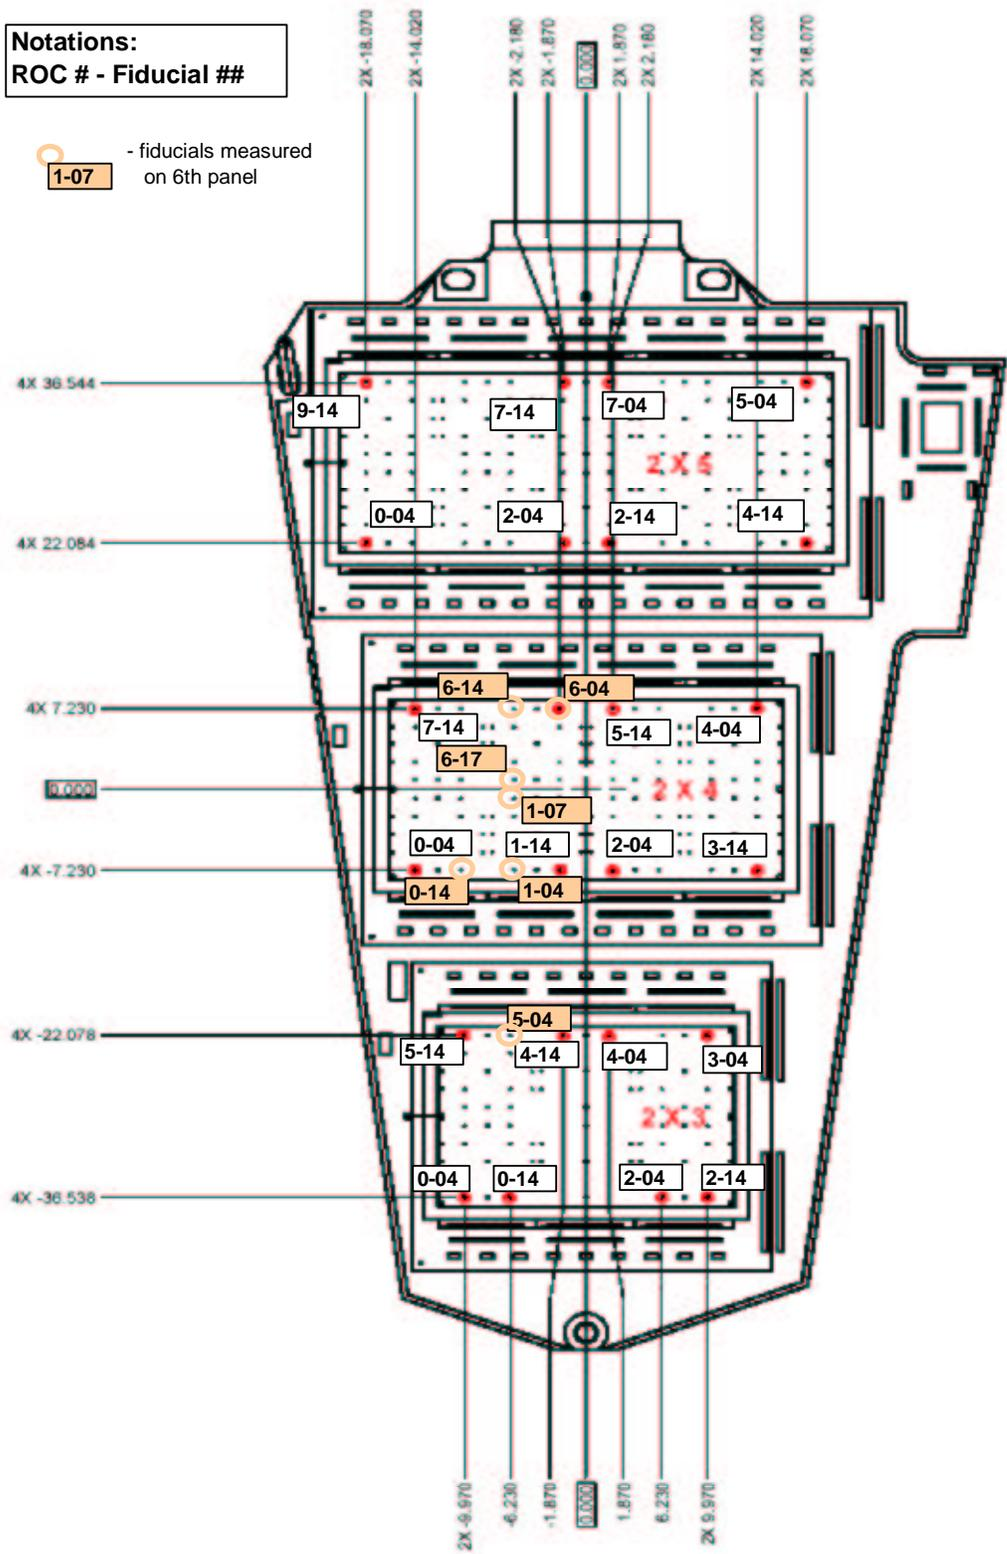

Fig. 3 Fiducials measured on the panel 6.
5. Panel 6 has severe space limitations and was measured according special pattern of 7 points to be presented on Fig.3.
3. Panel 6 (P3R-048) half-disk measurements pattern is shown in Fig. 3 and in Table 4 where corresponding 2x4 plaqueette fiducial labels and nominal positions are compared with measured ones. The 2x3 5-04 sensor fiducial position is not corrected for real 2x3 plaqueette placement position and need to be compared with the corresponding individual panel measurement position.